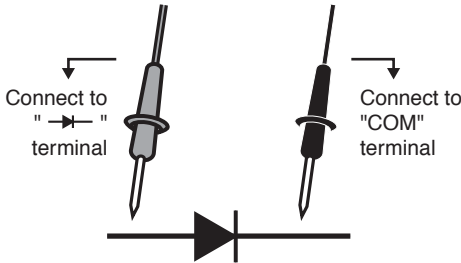

Fig.2-1
3. Connect the test lead to the semiconductor junction (diode or transistor) as shown in Fig.2-1, and read the displayed value.